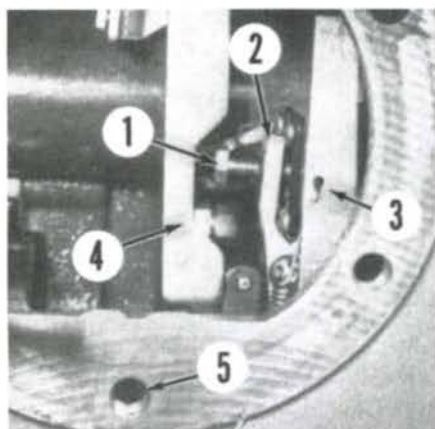

Fig. 187—Access to internal linkage adjustment points is obtained through response control cover opening. Oil should be at level of hole (5).
202. INSTALLED ADJUSTMENTS. The following adjustments should be performed with lift cover installed and tractor operational. Accomplish the adjustments in the sequence listed. Maintain oil level at the lowest mounting bolt hole (5—Fig. 187) of response control cover plate. Connect a 35000 kPa (5000 psi) pressure gage (4—Fig. 186) to test port (6) in lift cover as shown.
Remove response control cover plate and check that diaphragm adjusting screw (1—Fig. 187), if so equipped, has at least three threads extending through diaphragm lever (2) for an initial setting. Be sure oil is to level of lower bolt hole (5).
If pressure fluctuates more than 700 kPa (100 psi), adjust diaphragm screw (1—Fig. 187) as follows: Stop engine, move quadrant inner lever fully down and remove response control side cover. Turn diaphragm adjusting screw out ½ turn. Temporarily install response control cover and repeat pressure check. Ad-